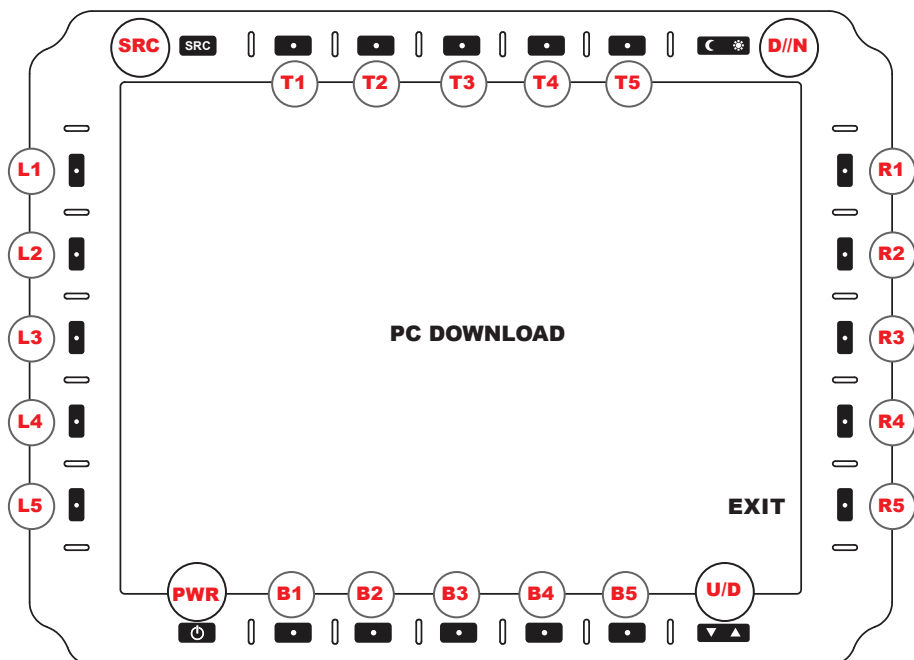

FIGURE 16. PC DOWNLOAD MENU
PC DOWNLOAD (B5). Use the shaded Arrow DOWN icon key to open the submenu PC Download (Figure 16).
Video Files can be transferred from DVR to a PC (laptop or computer) using the USB ports. In PC Download Mode (Figure 16), Display appears as a remote disk drive when connected to a PC. **Caution! Do not connect USB cable between Display and PC until Display reads PC Download Mode.**
- Screen message banner reads PC DOWNLOAD (above, Figure 16)